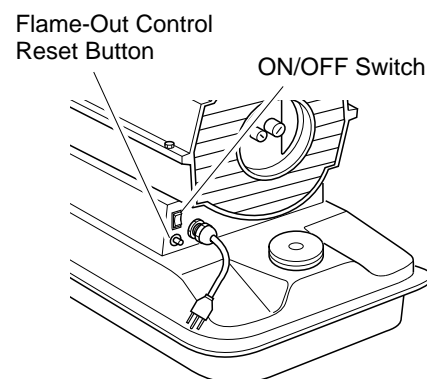

Figure 5 - Flame-Out Control Reset Button, 35/50/70,000 Btu/Hr
Push ON/OFF switch to ON and heater should start. If heater does not start, press flame-out control reset button (see Figures 5 and 6).
1. Reset flame-out control button, see Figures 5 and 6, page 5.